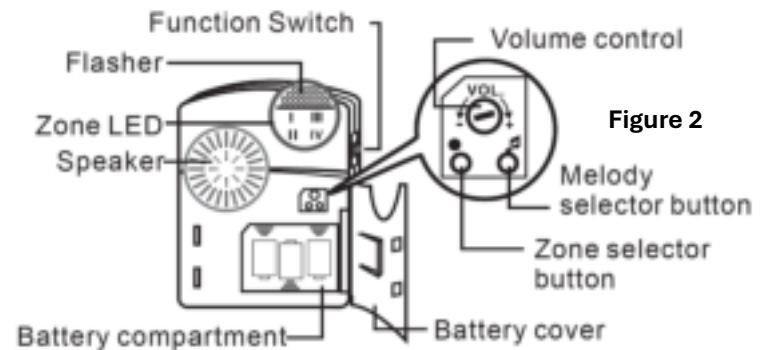

Figure 2
- The receiver has a volume control knob (see Figure 2).
- The LRA-DCRX-L (receiver) has three operational modes: strobe only, sound only, and strobe + sound (see Figure 2).
- Assign one (1) of thirty-two (32) available melodies to each transmitter
- Once four (4) transmitters have been paired to a receiver, you cannot add one unless you delete the existing transmitters from memory.
2. Press on hold the • zone selector button (see Figure 2) for three seconds. A red LED light will blink to a corresponding zone (I, II, III, or IV) —release when the red LED flashes in a zone.
- Hold the • zone selector button (see Figure 2) for 3 seconds to enter the learning mode—release when the red LED flashes in a zone.